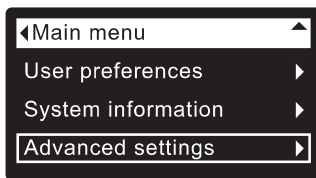

FIG. 128
1. From any of the rolling status screens, press the SELECT (O) button to display the **Main menu**.
2. Press the DOWN (▼) button to scroll through the menu options until **Advanced settings** is highlighted (See Figure 128).